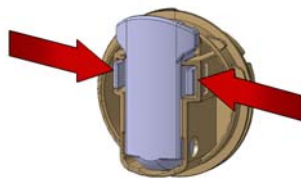

Fig. 2
- press the two tabs that lock the plug closing lever, fig. 2,